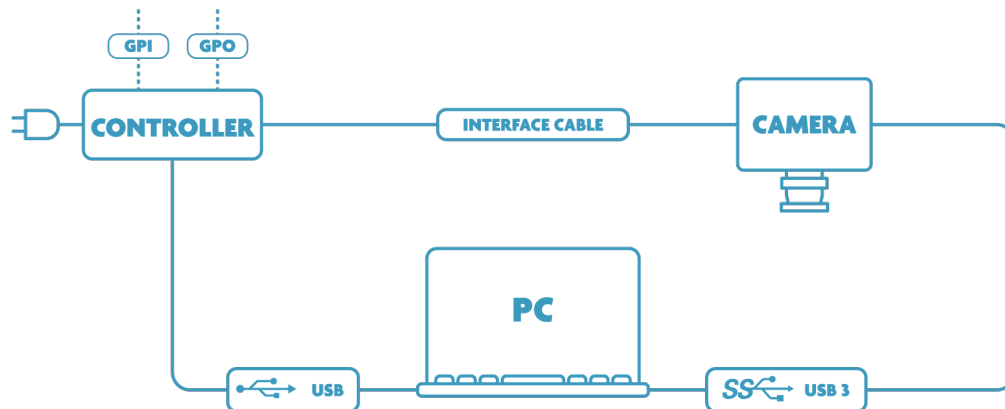

Figure 52 Connections between snapscan camera, snapscan controller and PC (Step 7.5b)
- b. The connections between the snapscan camera, the snapscan controller and the PC should be as shown in Figure 52.